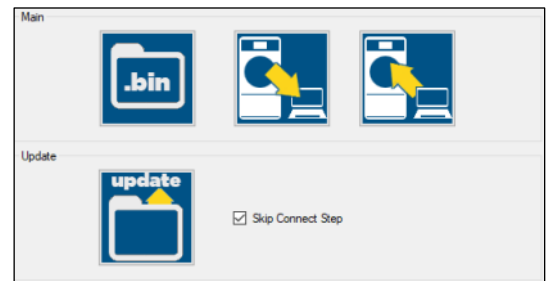

Fig. 4.5
- Perform the loading process normally by clicking on Skip Connect Step. (Fig. 4.5)